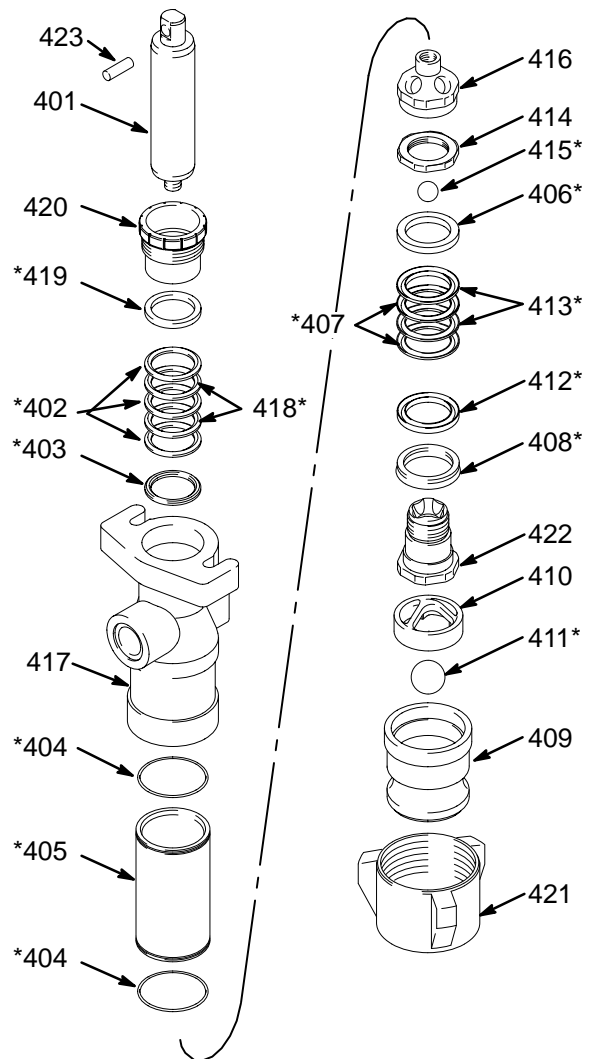

Fig. 15
- 2 Use a hard rubber mallet on the tabs of the lug nut (421) to loosen the foot valve housing.
- 3 Disassemble the pump, but do not disassemble the piston rod (401) from the piston housing (416) unless one of those needs to be replaced. Due to the high-strength Loctite® used at the joint of these two parts, the joint must be heated before disassembly. Refer to Fig. 15.